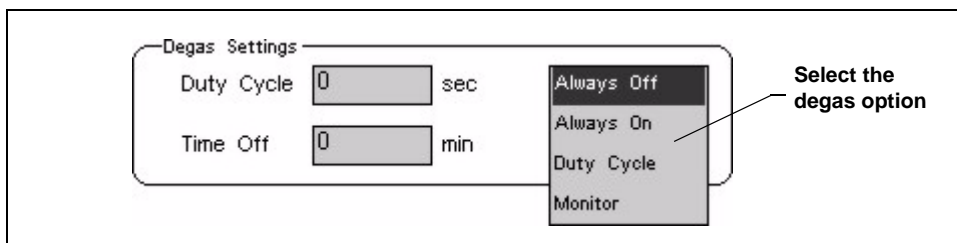

Figure B-15. Pump Page: Selecting Degas Options
- Under **Degas Settings**, touch the options drop-down list. A list of available options appears (see Figure B-15).